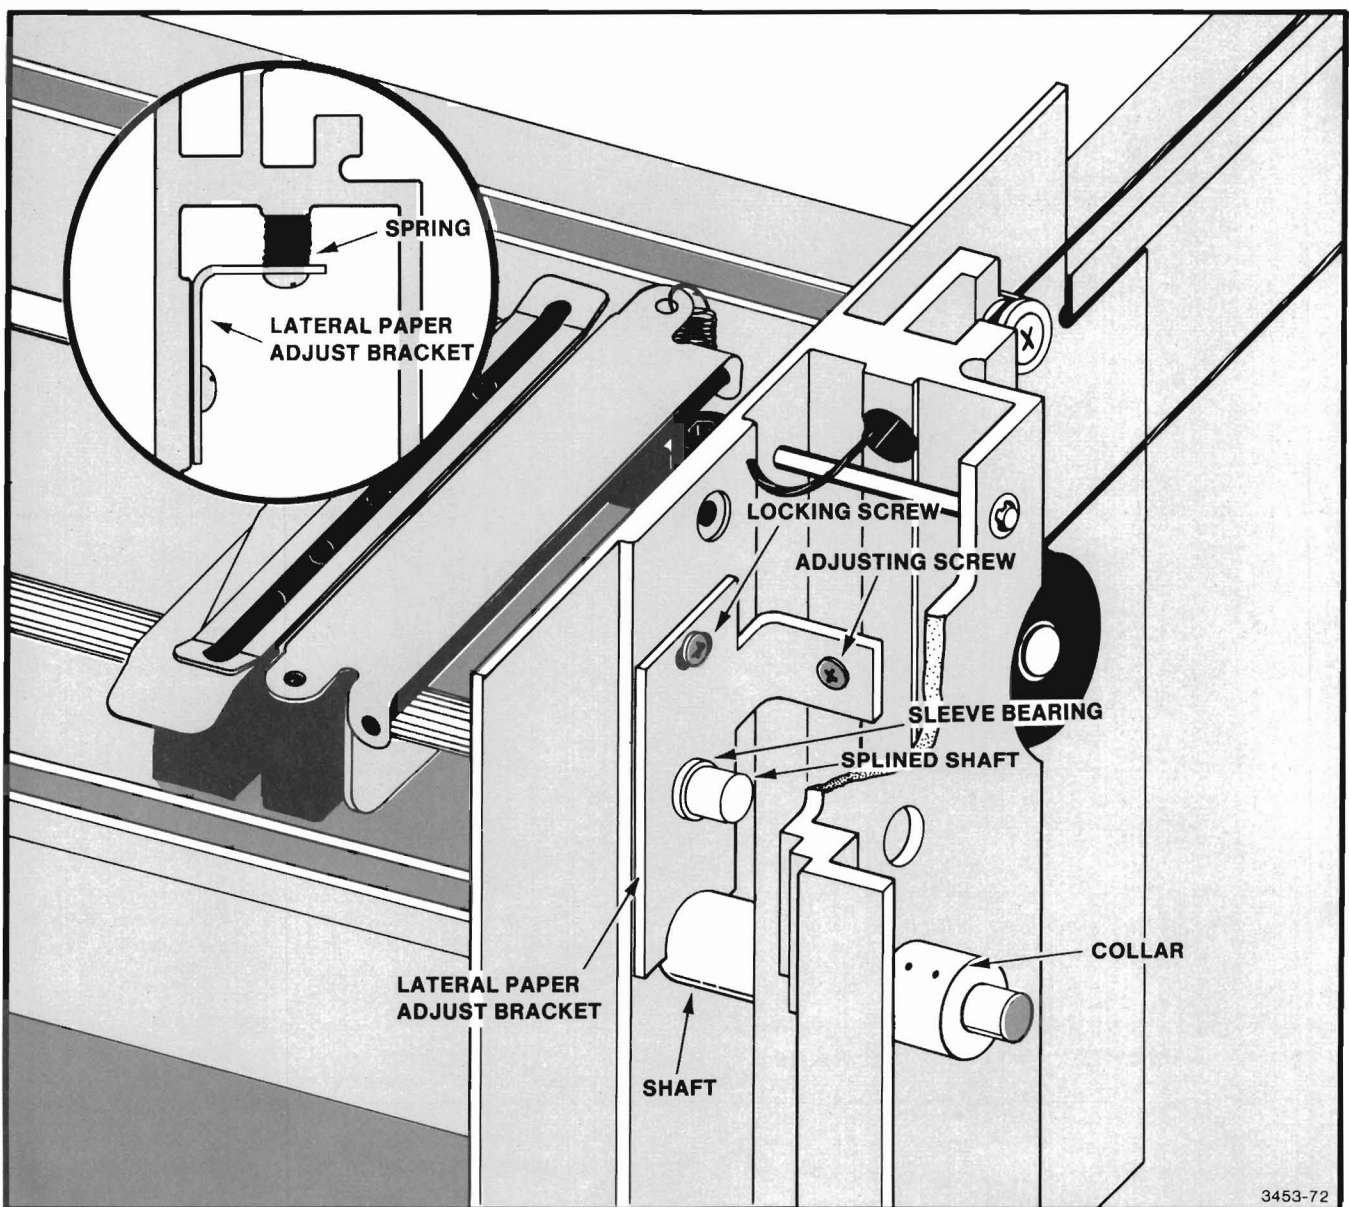

Figure A-10. Lateral Paper Adjust Bracket Assembly Detail.
8. Insert the small shaft (105-0770-00) into the hole (small end first) on the right rear corner bracket located just under the spline shaft's rear sleeve bearing (see Figure A-10). Shaft is inserted from inside the corner bracket to the outside. Push the shaft rearward as far as possible. Then install a small collar (376-0032-00) on the outside over the small end of this shaft. Slide the collar tight against the corner bracket, and secure it with two set screws.
9. Mount the lateral paper adjust bracket (407-2282-00) on the rear end of the splined shaft and inside the rear corner bracket. Secure the lateral bracket with a screw (211-0272-00) and a spring (214-0368-00). (See Figure A-10.) This bracket's slot fits in the outside groove of the sleeve bearing on the spline shaft. The spring goes over the screw between the lateral paper adjust bracket and the corner bracket of the Plotter.
6. As the paper comes off the roll, its "edge tension" should be constant for both edges. If one edge is tighter than the other, one tractor is slightly ahead of the other. Refer to Figure A-10 and loosen the locking screw. Then, while the paper is advancing, turn the adjustment screw either way for equal tension on the edges of the paper. Tighten the locking screw when the adjustment is complete.